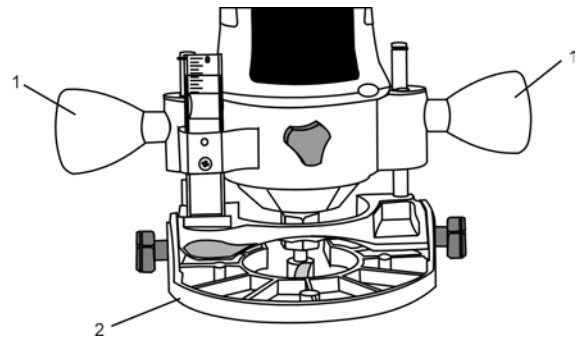

**Fig. 15**
2. Remove accessory locking knob (1) from the base of the spin saw motor housing (see Fig. 15). Depress the motor shaft locking button (2) on the back of the motor housing (see inset).